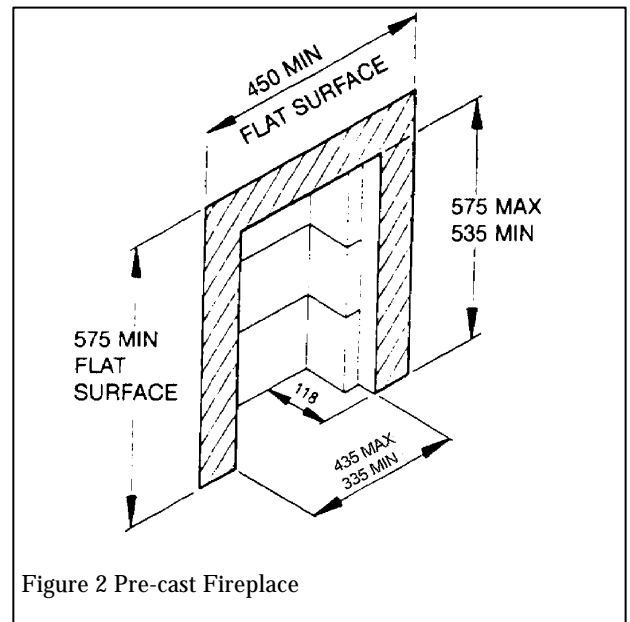

Figure 2 Pre-cast Fireplace
2. To a fireplace that has a precast concrete or clay flue block system conforming to BS1289. The appliance is suitable for installations conforming to older versions of BS1289 as well as the current edition. The flue blocks must have a minimum width not less than 63mm and a cross-sectional area not less than 13,000mm². Older editions of BS1289 required a cross-sectional area of 13,000mm². The current revision of the standard requires 16,500mm². This appliance is suitable in both cases. The total depth of the opening measured from the finished front of the fireplace (Including plaster, surround etc.) must be **not less than 118mm** (Figure 2).